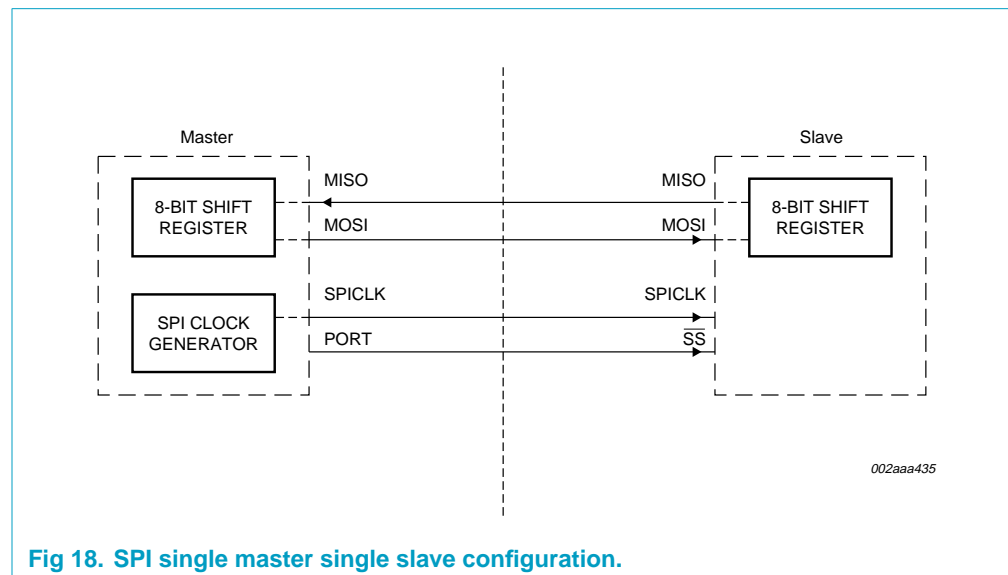

Fig 18. SPI single master single slave configuration.
Typical connections are shown in Figure 18, 19, and 20.
- The 89LPC913 does not have the slave select pin, \overline{SS} . The SPI interface is set to Master mode and an I/O pin may be used to implement the \overline{SS} function. Typical connections are shown in Figure 18 and 19.